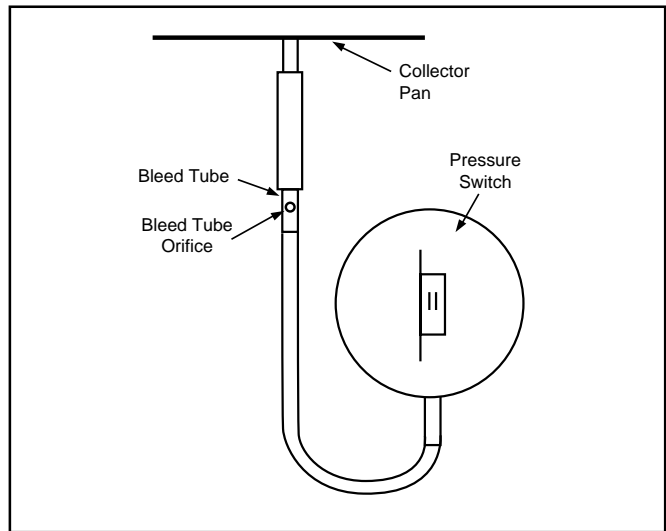

Figure 11. G6RK Bleed Tube Installation
together in a wire nut. (See Figure 11.)
2. Remove the rubber tubing from the pressure switch sensor tube and the collector pan sensor tube. Cut the tubing approximately 3" from one end and insert the bleed tube into the tubing. **Do not cover the hole in the bleed tube.** Place the tubing assembly back on the pressure switch sensor tube and collector pan sensor tube. (See Figure 11.)